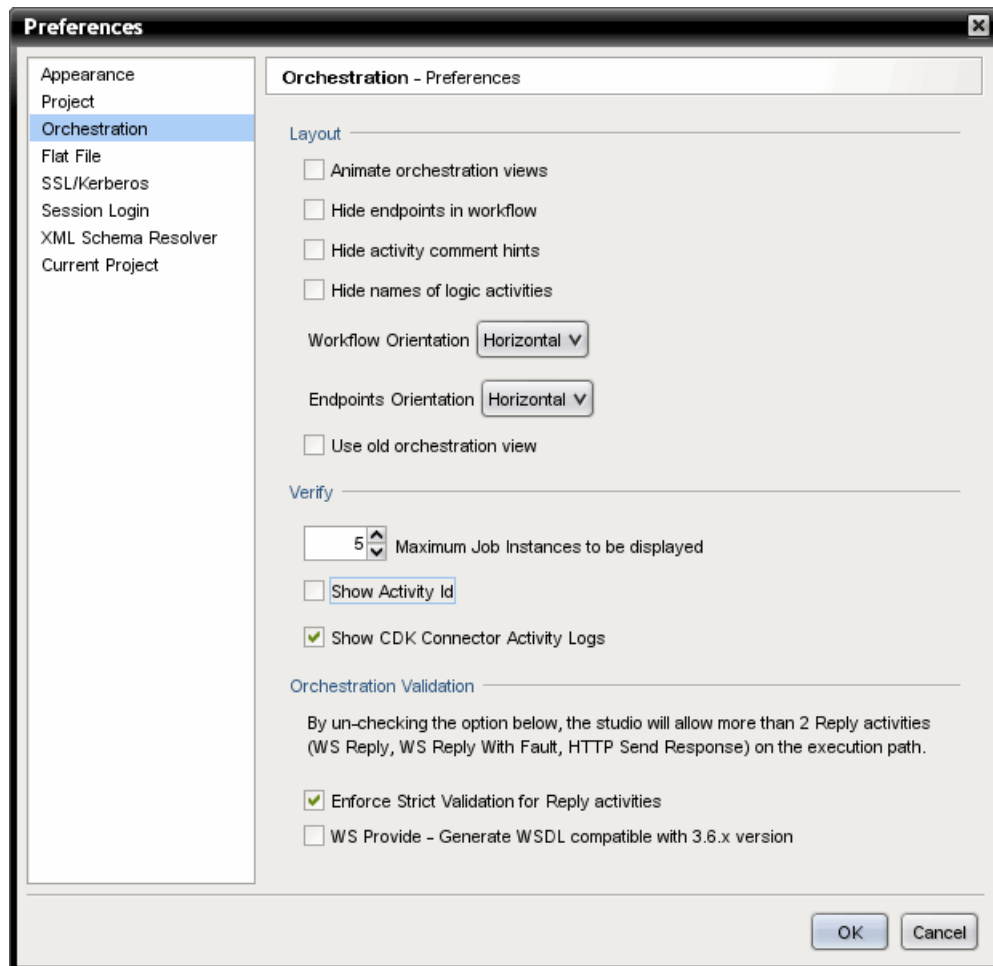

Figure 8-18 Enable the CDK Activity execution log
Enable the display of all processes of the activity by selecting **Show CDK Connector Activity Logs** in the Orchestrations tab of Studio preferences, as shown in Figure 8-18. To open the preferences select **Edit** → **Preferences** → **Orchestration**.
8. Enable the CDK Activity execution log, as shown in Figure 8-18 on page 343.